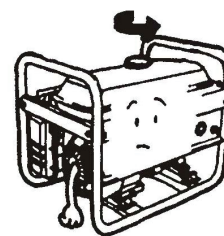

Figure 14
1.2.2 Remove the fuel filler cover (Figure 14)